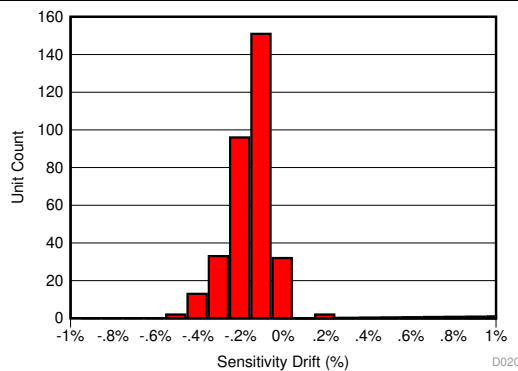
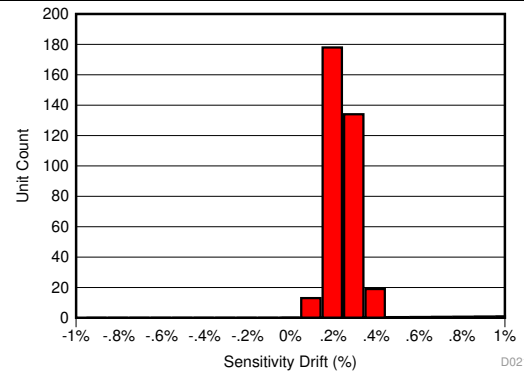

Figure 46. Sensitivity Error after 135°C, 85% RH HAST
Figure 47. Sensitivity Error Drift after AEC-Q100 High Temperature Operating Life Stress Test
The same compensation techniques utilized in the TMCS1101 to reduce temperature drift also greatly reduce lifetime drift due to aging, stress, and environmental conditions. Typical magnetic sensors suffer from up to 2% to 3% of sensitivity drift due to aging at high operating temperatures. The TMCS1101 has greatly improved lifetime drift, as defined in the Electrical Characteristics for total sensitivity error measured after the worst case stress test during a three lot AEC-Q100 qualification. All other stress tests prescribed by an AEC-Q100 qualification caused lower than the specified sensitivity error, and were within the bounds specified within the Electrical Characteristics table. Figure 46 shows the total sensitivity error after the worst case stress test, a Highly Accelerated Stress Test (HAST) at 130°C and 85% relative humidity (RH), while Figure 47 and Figure 48 show the sensitivity and offset error drift after a 1000 hour, 125°C high temperature operating life stress test as specified by AEC-Q100. This test mimics typical device lifetime operation, and shows the likely device performance variation due to aging is vastly improved compared to typical magnetic sensors.